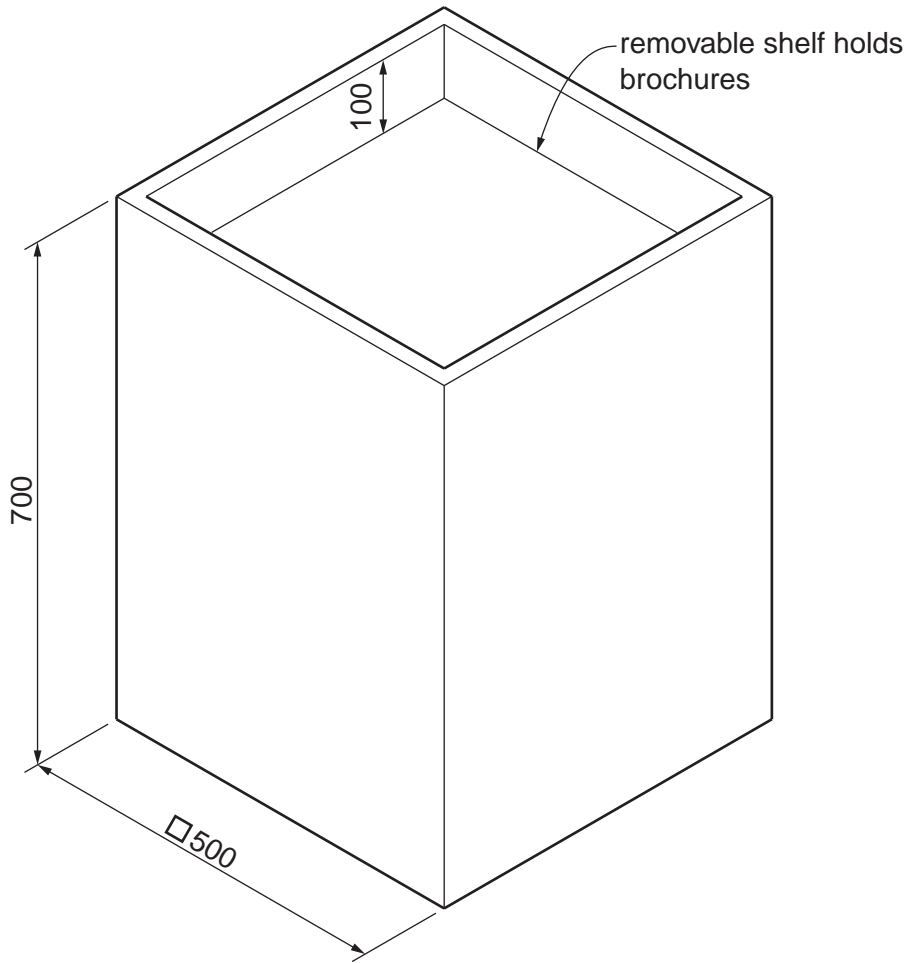

Fig. 8
- 8 Fig. 8 shows an incomplete design for a display stand. The stand will be used to hold brochures and leaflets for 'The Mountain Holiday Company'. The stand will be manufactured in flat form from 5 mm thick corrugated cardboard.